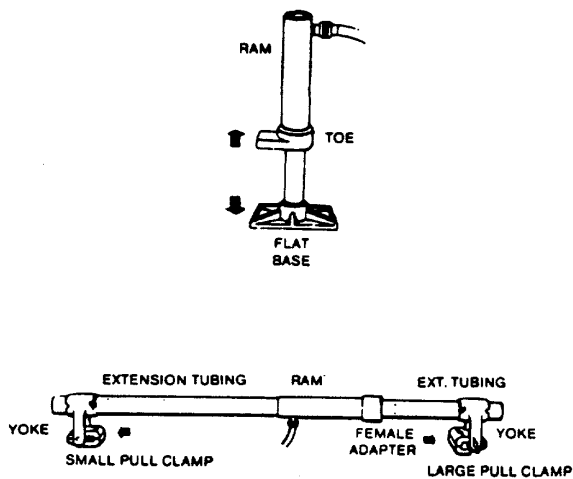

Figure 3.
**IMPORTANT:** When applying off-center loads use extreme caution, and pump carefully. Off-center loads produce strain on the ram plunger, attachments, and extension tubes, which may result in equipment failure. Loads will be off-center when using such attachments as: Notched Pull Toe, Edge Clamp-Pusher-Head, Adjustable Body Spoon and Lift Toe. (See figure 3)